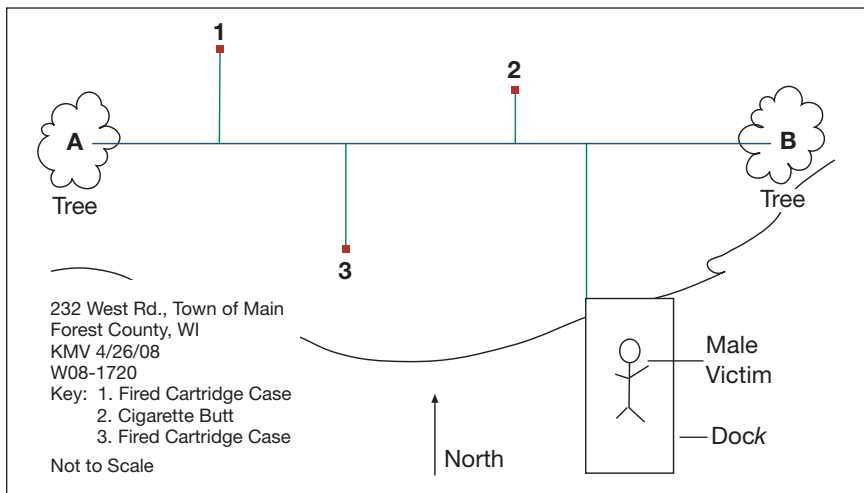

Fig. 4-7
1. Transect the crime scene by laying down a tape measure along some convenient line so it crosses the entire area (blue line, see Figure 4-7).